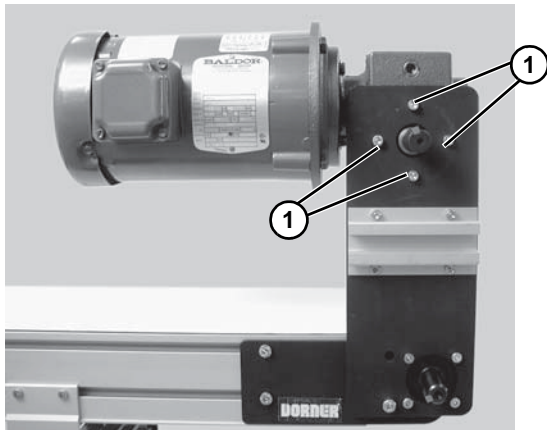

Figure 19
- Remove four (4) gear reducer mounting screws (**Figure 19, item 1**). Remove gearmotor.
15. Install garmotor to mounting bracket and tighten screws (Figure 19, item 1) to 110 in-lb (12 Nm).